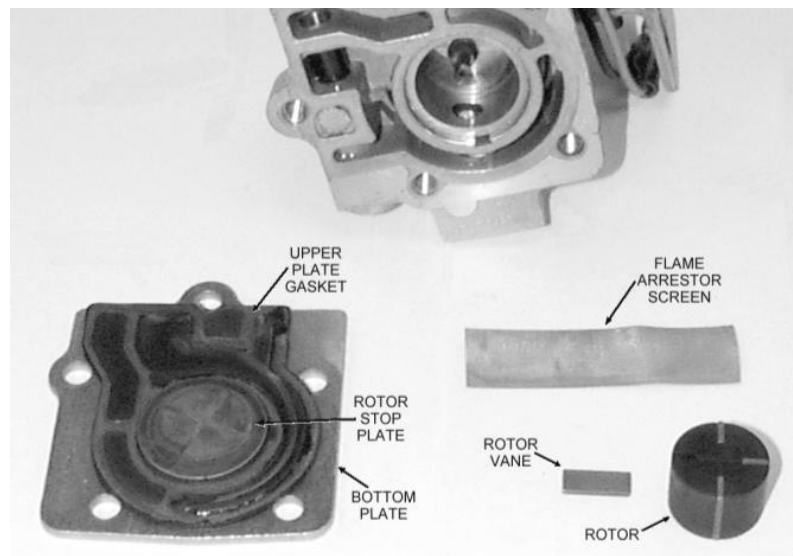

Figure 7
4. Remove the flame arrestor (note the position of the screen). Remove the rotor vanes and rotor by inverting the pump. Lay all pieces on a flat clean surface. See Figure 7.